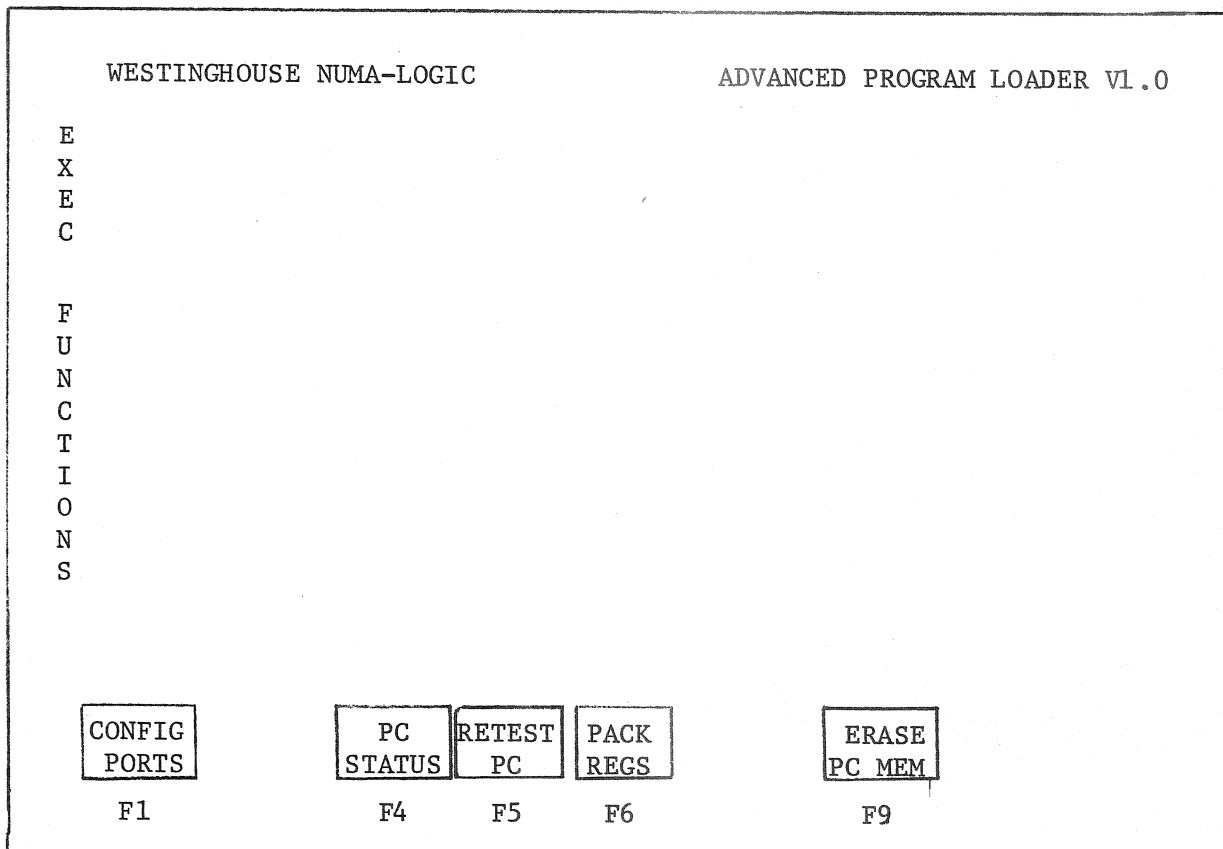

Figure 6-13. Executive Function Mode Menu
- Configure the Communication Ports of the Advanced Program Loader (F1/CONFIG PORTS function key). See Figure 6-13.